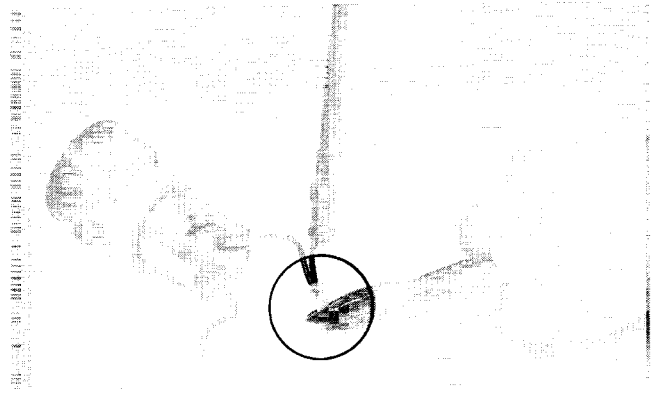

Figure 5.61
5.61 REPLACE MOTOR (fig. 5.61)